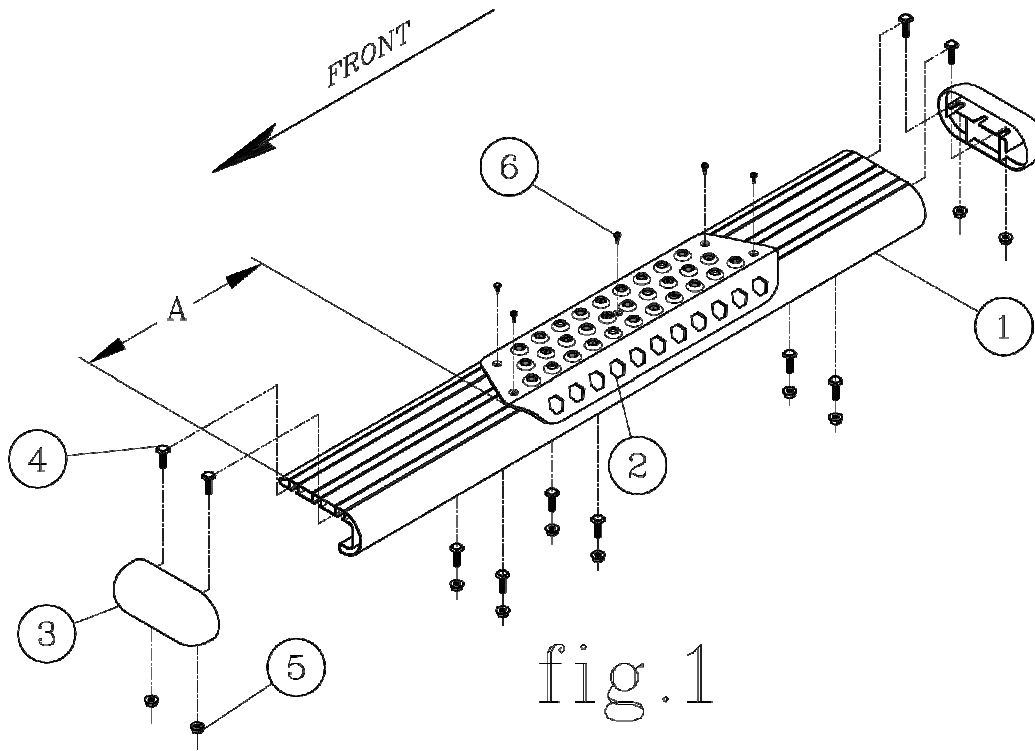

fig.1
3. BEFORE ATTACHING THE O-MEGA STEPS TO THE BRACKETS, PLACE THE STEP PADS (ITEM #2) ON TOP OF THE STEP PLATES. USE THE TABLE ON SHEET #2, AS A GUIDE TO POSITION THE STEP PAD FOR YOUR PARTICULAR VEHICLE. WHEN INSTALLING THE PADS ON THE STEPS, DRILL (5) 1/8" HOLE USING THE STEP PAD AS A GUIDE. ATTACH WITH (5) 8-18X1/2" TEK SCREWS (ITEM #6) PROVIDED. REPEAT FOR ALL STEP PADS.
5. INSTALL THE END CAPS (ITEM #3) AS SHOWN IN *fig. 1* SNUG UP THE NUTS. BE CAREFUL NOT TO DEFORM THE PLASTIC
- 2.1 INSERT 5/16" MULTI-THREAD U-NUT (ITEM #7) INTO THE UPPER HOLES IN THE ROCKER PANEL (SEE FIG. 1).